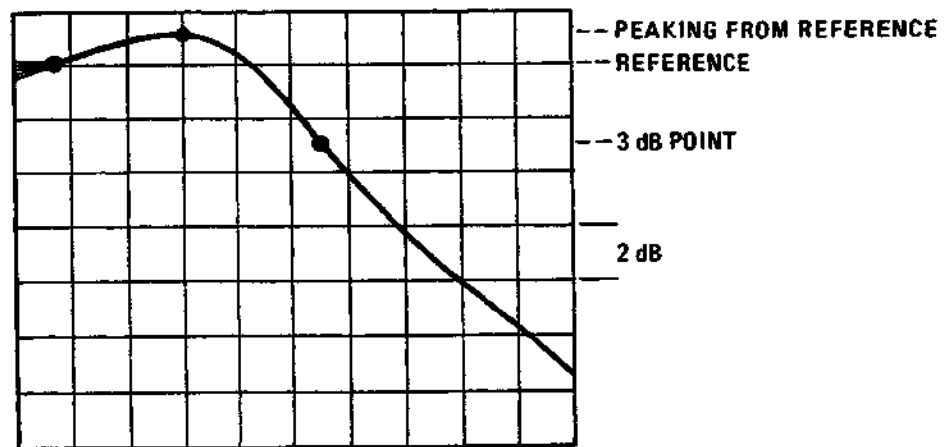

Figure 5-35. Typical AGC Bandwidth Display
Set the input attenuation and sensitivity of the spectrum analyzer as needed so that the signal at the left side of the display (after ringing) is one division below the top graticule (see Figure 5-35).
- After changing a capacitor, tune the RF frequency of the Generator through the selected band again. Verify that the signal level does not peak more than 6 dB from the reference level and that no oscillations occur (see Figure 5-35). If peaking is greater than 6 dB, increase the capacitance.